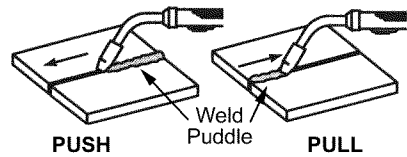

Figure 11. Travel Direction
1. TRAVEL DIRECTION is the direction the torch is moved along the weld joint in relation to the weld puddle. The torch is either **PUSHED** (see Figure 11) into the weld puddle or **PULLED** away from the weld puddle.